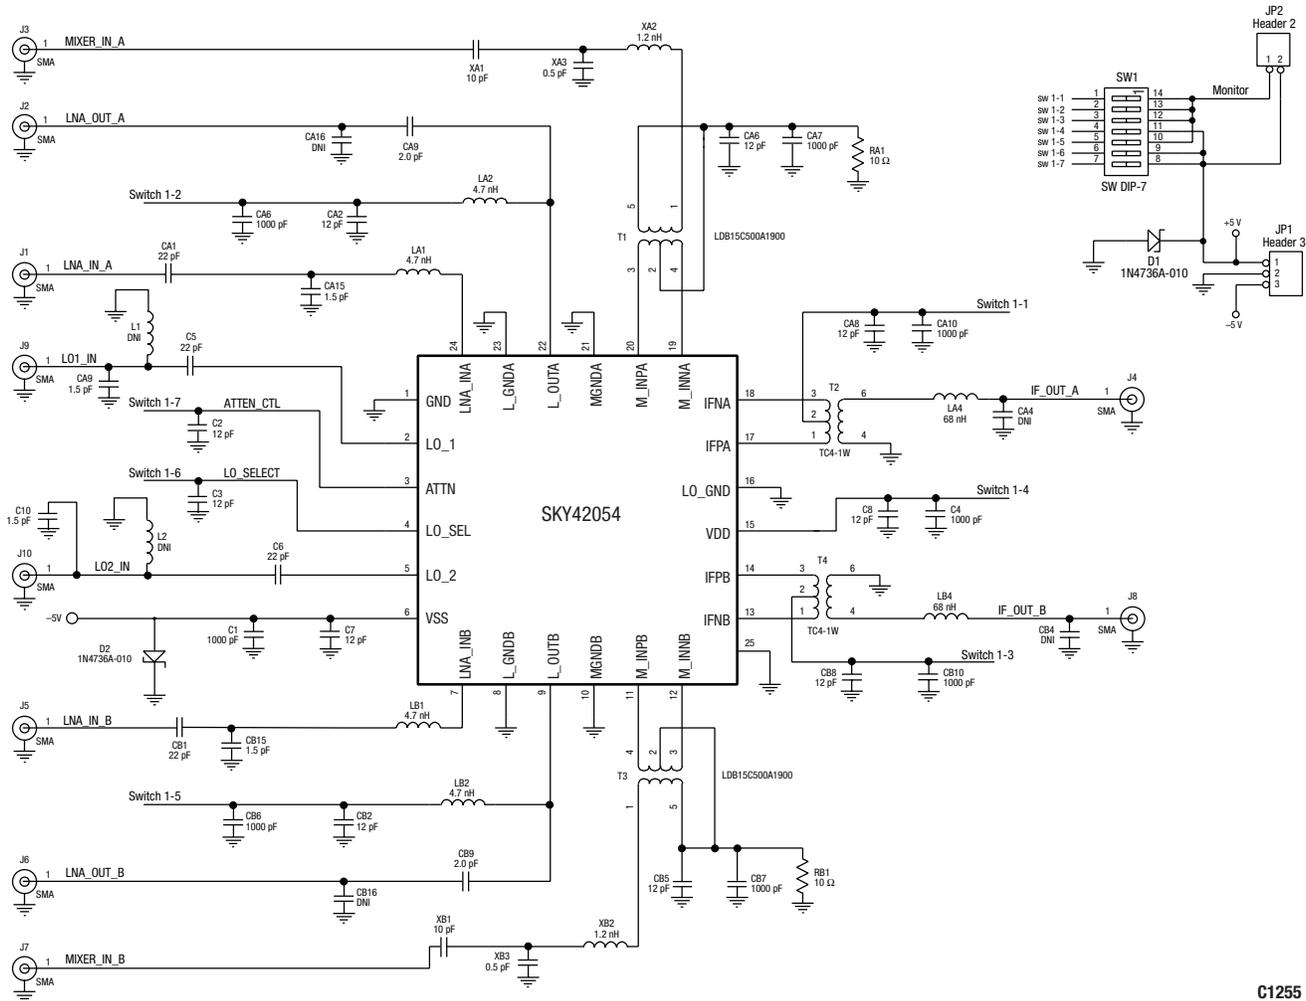
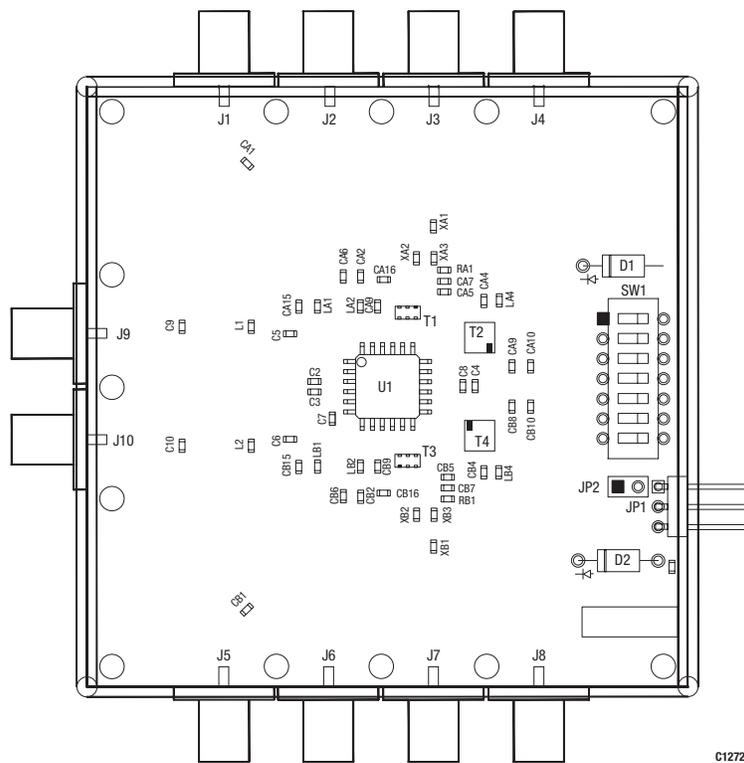

Figure 10. SKY42054 Application Schematic
Figure 11. SKY42054 Evaluation Board Layout
Note 1: In a 50 Ω system obtained with external matching components on input/output ports. See Figure 10, and Tables 6 and 7 for matching network configuration and element values.
Note 1: In a 50 Ω system obtained with external matching network on LNA and mixer input ports. See Figure 10, and Tables 6 and 7 for network elements and frequency ranges.
The SKY42054 Evaluation Board is used to test the performance of the SKY42054 mixer and LNA. An Evaluation Board schematic diagram is shown in Figure 10. The schematic shows the basic design of the Evaluation Board for the RF range of 1800 to 2000 MHz. The IF matching circuitry has been optimized for 100 to 200 MHz. Tables 6 and 7 contain I/O matching network components used in the schematic for RF and IF frequencies, respectively. Figure 11 displays the Evaluation Board layout.
3. The inclusion of external bypass capacitors on the VSS and VDD voltage inputs of the LNAs and mixers is recommended. The application schematic in Figure 10 shows these capacitors (1000 pF and 12 pF) in shunt with each control switch, as well as the VSS supply. The 1000 pF capacitor serves as a low frequency bypass, while the 12 pF capacitor prevents any RF signals from coupling on to the DC supply voltages. It is recommended that the bypass capacitors be placed as close as possible to the SKY42054 for best results.
Note 1: Standard Evaluation Kit TW10-D212 is optimized for the 1800 to 2000 MHz frequency range. The schematic diagram shown in Figure 10 applies to Evaluation Kit TW10-D212.